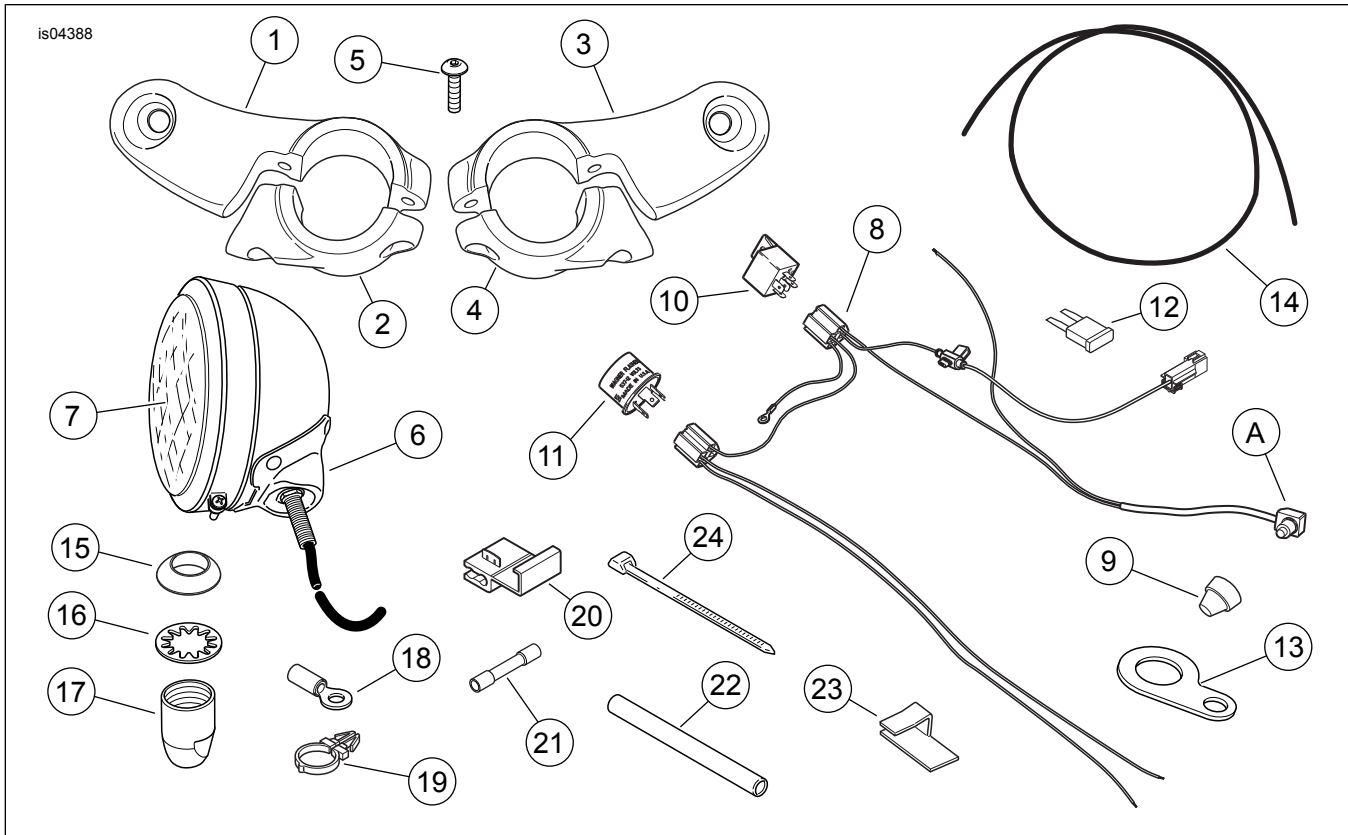

Figure 8. Service Parts, Pursuit Lamp Kit
11. **For 2003 and earlier models:** See Figure 4. Cut the connector from the white power lead (6), and replace it with the ring terminal (Figure 8, 18) supplied in the kit. Connect the white wire with the ring terminal to the copper stud (BAT) terminal of the main circuit breaker. **For 2004 and later models:** See Figure 5. Connect the pin housing on the white wire to the B+ socket housing (3) on the vehicle harness.
14. See Figure 8. Remove the boot (9) from the lamp switch (A), and install the switch into the switch mounting bracket (13) from the kit. Assemble the boot to the switch.
16. Secure the lamp switch leg of the pursuit lamp harness to the handlebar using the **new** wire harness retainers (Figure 8, 19) as needed. Snap the retainers into the holes in the handlebar.
17. See Figure 4. Route the black wire without the ring terminal (3) to a convenient location under the seat, and splice the black wire to the accessory circuit wire on the vehicle harness using the Scotchlok[®] connector (Figure 8, 20).